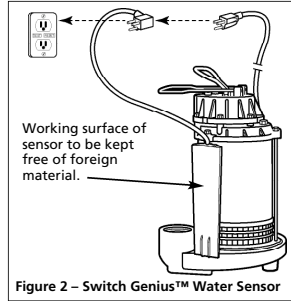

Figure 2 – Switch Genius™ Water Sensor
3. Insert the pump power cord plug directly into the back of the water sensor cord plug (Figure 2).